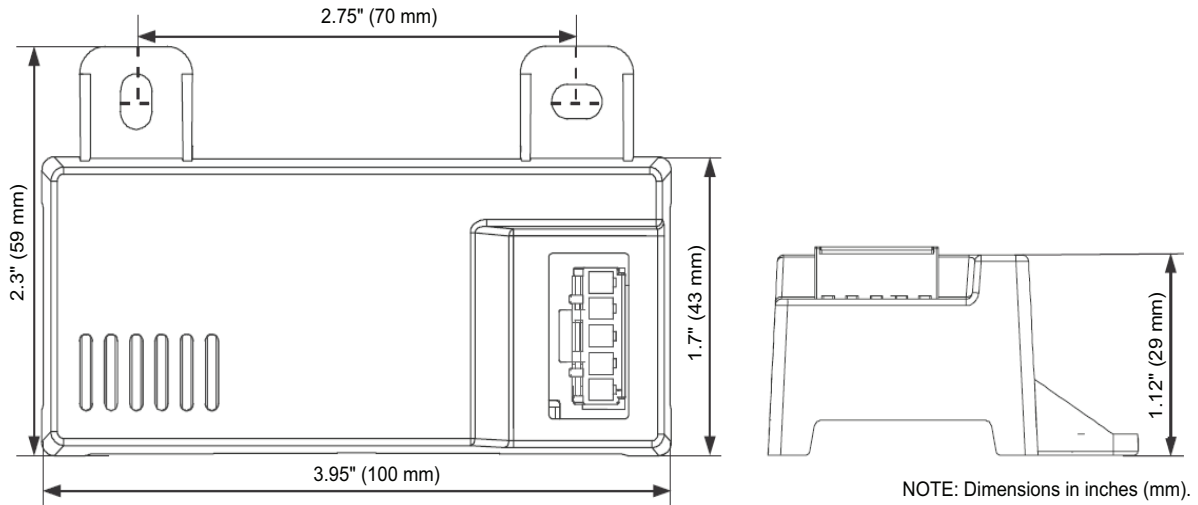
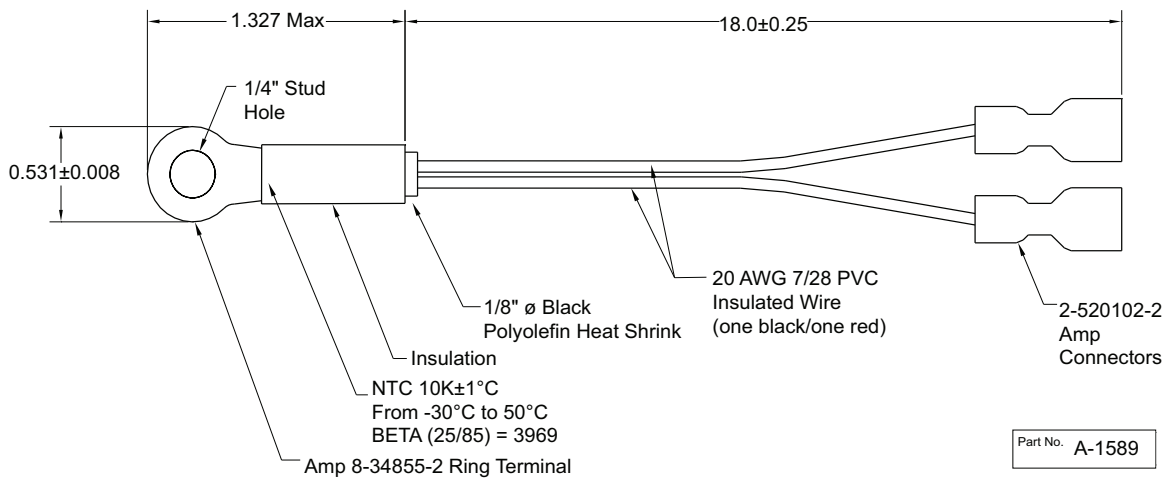
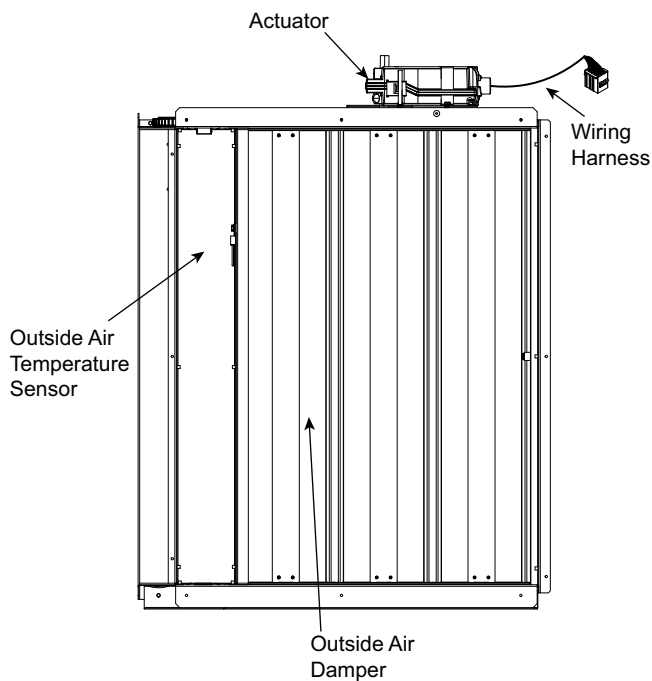

Fig. 68 – HH57LW001 Dimensional, Connection and Switching Information
Fig. 69 – HH79NZ039 Dry Bulb and Mixed Air Sensor Wiring
Fig. 70 – EconomizerONE Component Locations (CRECOMZR108A00 Shown)
When using the HH57LW001 enthalpy sensor (see Fig. 68) for outside air changeover, the existing HH79NZ039 dry bulb sensor (see Fig. 69) must be removed. The enthalpy sensor will be mounted in the same location as the dry bulb sensor (see Fig. 70). When the enthalpy sensor's OA (Outside Air) temperature, enthalpy, and dew point are below their respective setpoints, the outside air can be used for free cooling. When any of these are above the setpoint, free cooling will not be available. Enthalpy setpoints are configurable and create an enthalpy boundary according to the user's input. For additional details, see Fig. 71-72 and Table 27.
The optional enthalpy control sensor (P/N: HH57LW001) communicates with the POL224 economizer controller using the 5-wire harness, 48TC005213. The HH57LW001 sensor can be used as a single outside air enthalpy, a differential return enthalpy, or a differential return temperature sensor. Refer to the base unit control wiring diagrams found earlier in this book to wire the HH57LW001 enthalpy sensor for each option. Use Fig. 68 and Table 29 on page 53 to locate the wiring terminals for each enthalpy control sensor.
Economizers are shipped standard with an HH79NZ039 outside air dry bulb sensor (see Fig. 69). System default setting (high temp limit) is 63°F (17°C) and has a range of 48°F to 80°F (9°C to 27°C). Sensor is factory installed on economizer.
If installing the optional HH57LW001 enthalpy sensor, the HH79NZ039 dry bulb outside air sensor must first be removed. Wire sensor to harness 48TC005213 and the (5) wires from the harness to the EconomizerONE harness in the return air chamber. Harness 48TC005213 has a 5-pin plug that connects directly to the HH57LW001 enthalpy sensor. Refer to the base unit control wiring diagrams earlier in this book for wiring connections. Refer to Fig. 68 and Table 29.